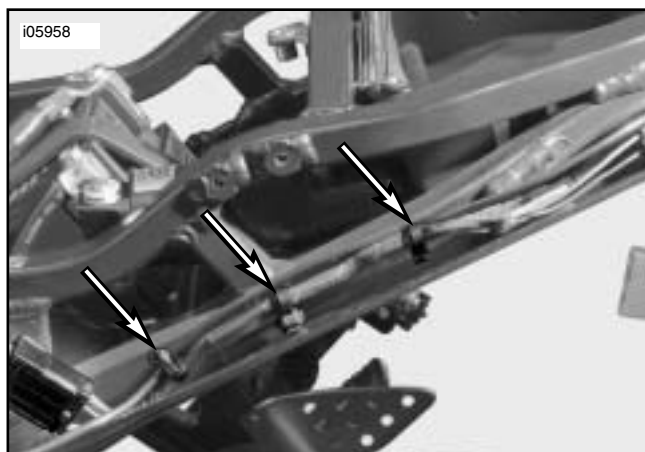

Figure 7. Wiring Routing Along Tail Frame (Firebolt)
13. See Figure 7. Route the license-plate frame wires alongside the existing wiring along the tail frame, securing with a new "fir tree" strap (14) from the kit.
14. On either side of the "fir tree" strap, secure the harness to the existing wires with tie straps (13).